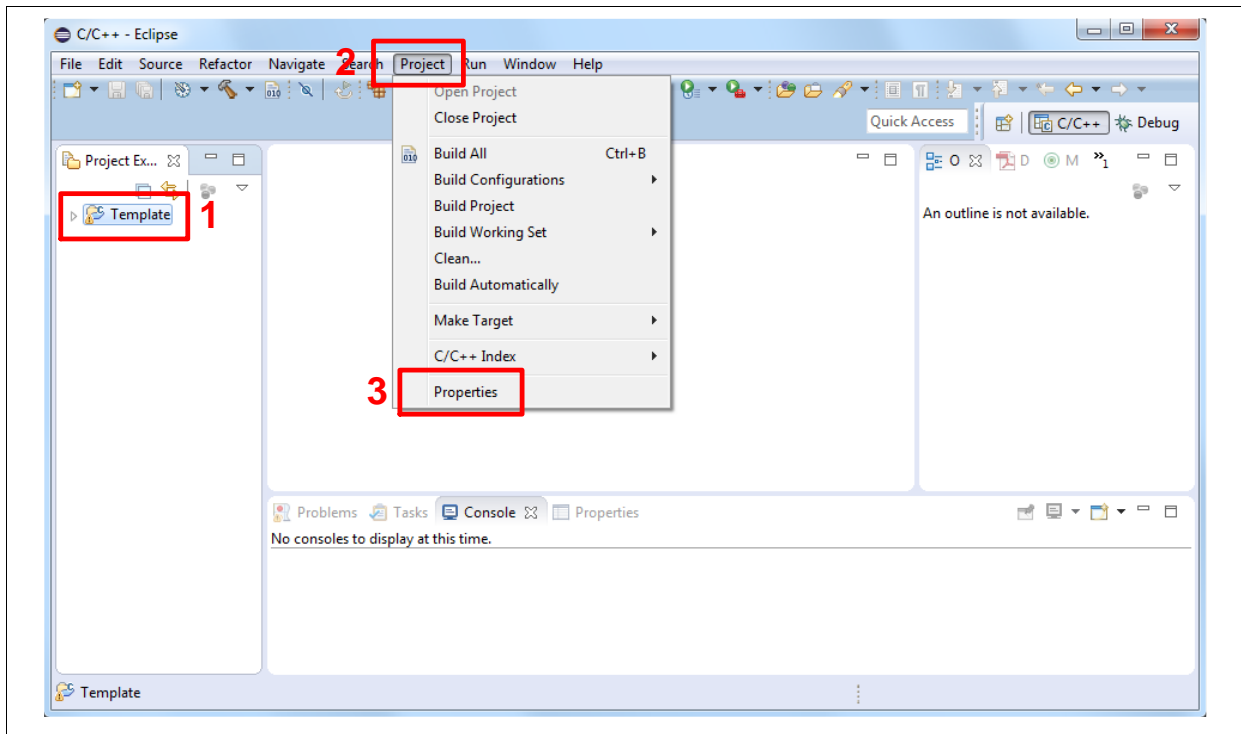
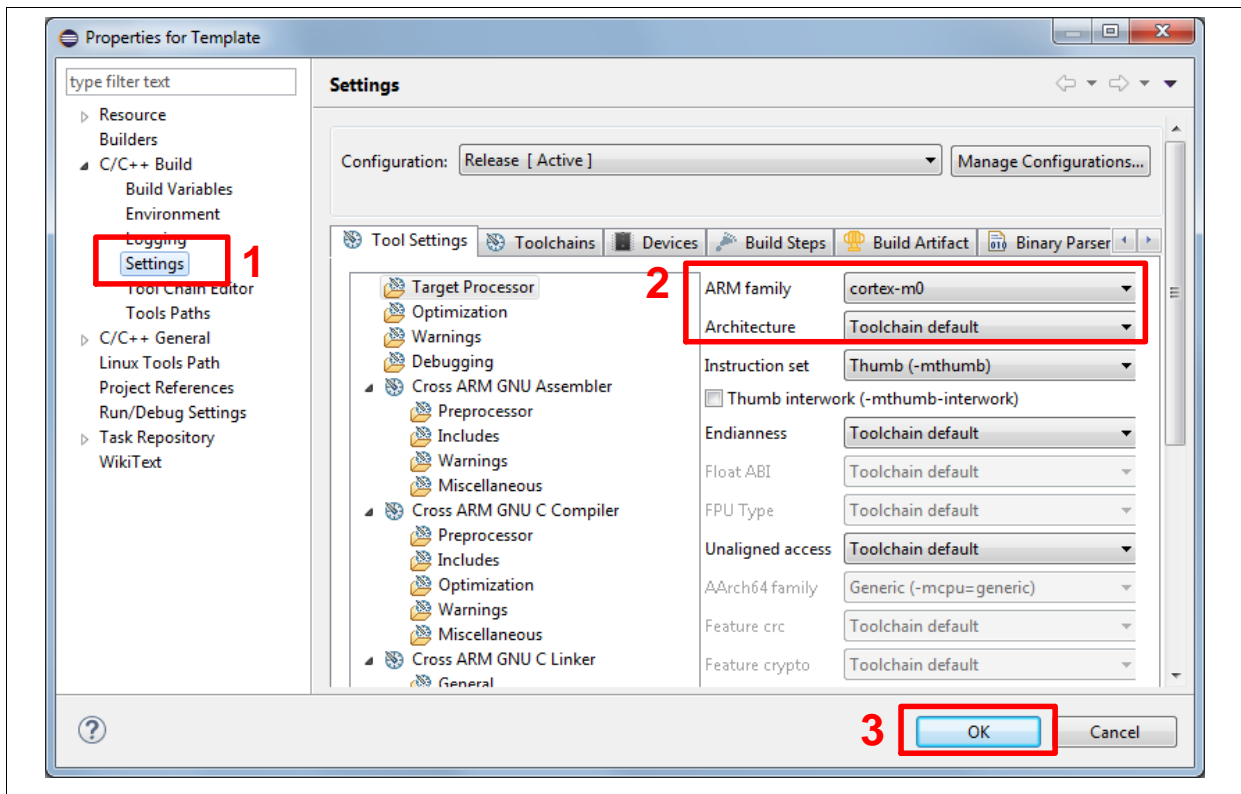

Figure 4-21 Open Project Properties Window
Figure 4-22 Project Properties Settings
- 3. Click the “Template” project and find the project properties as shown in Figure 4-21. Make sure the settings are the same as settings in Figure 4-22.